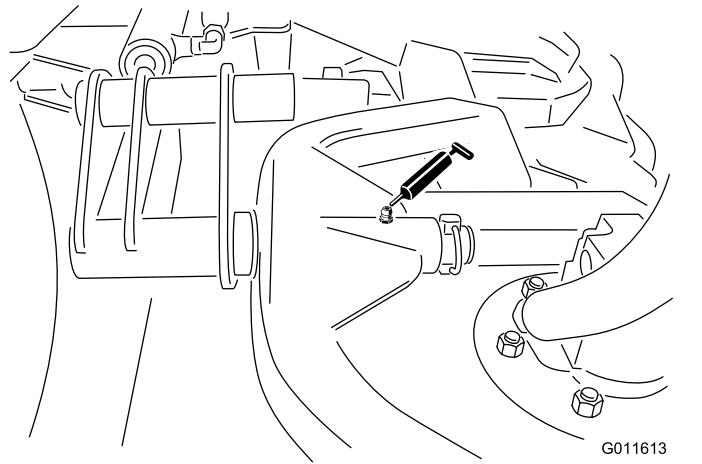

Figure 73
- Cutting unit carrier-frame pivot (1 each)—Figure 73